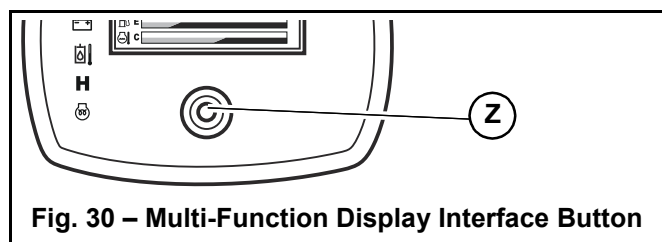

Fig. 30 – Multi-Function Display Interface Button
1. Hold down the interface button (Z, Fig 30) on the multi-function display for 5 seconds.